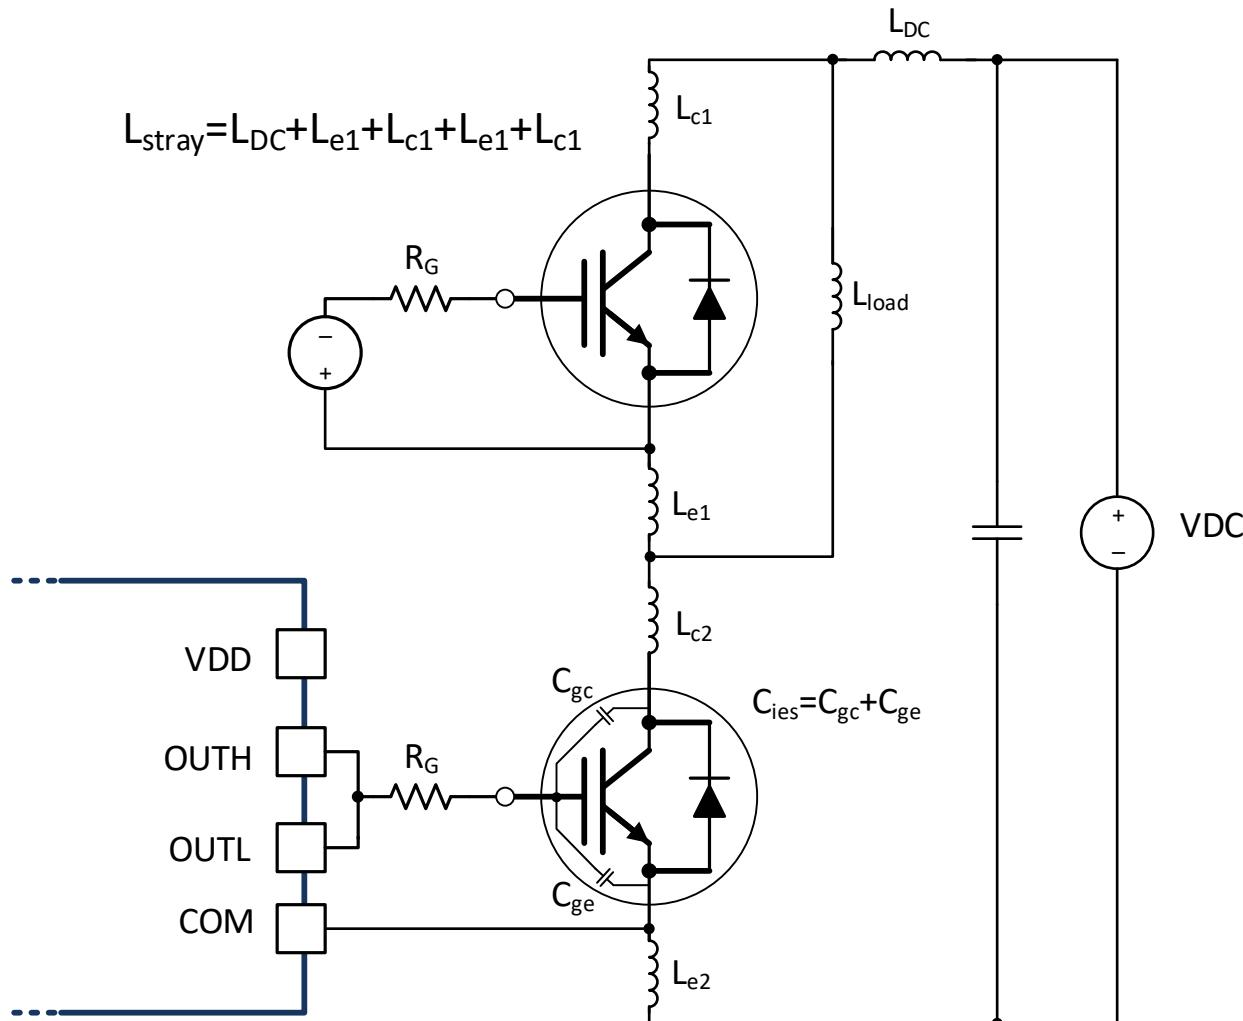

图 9-6. Stray Parasitic Inductance of IGBTs in a Half-Bridge Configuration
- $L_{\text{stray}}$  is the stray inductance in power switching loop, as shown in 图 9-6